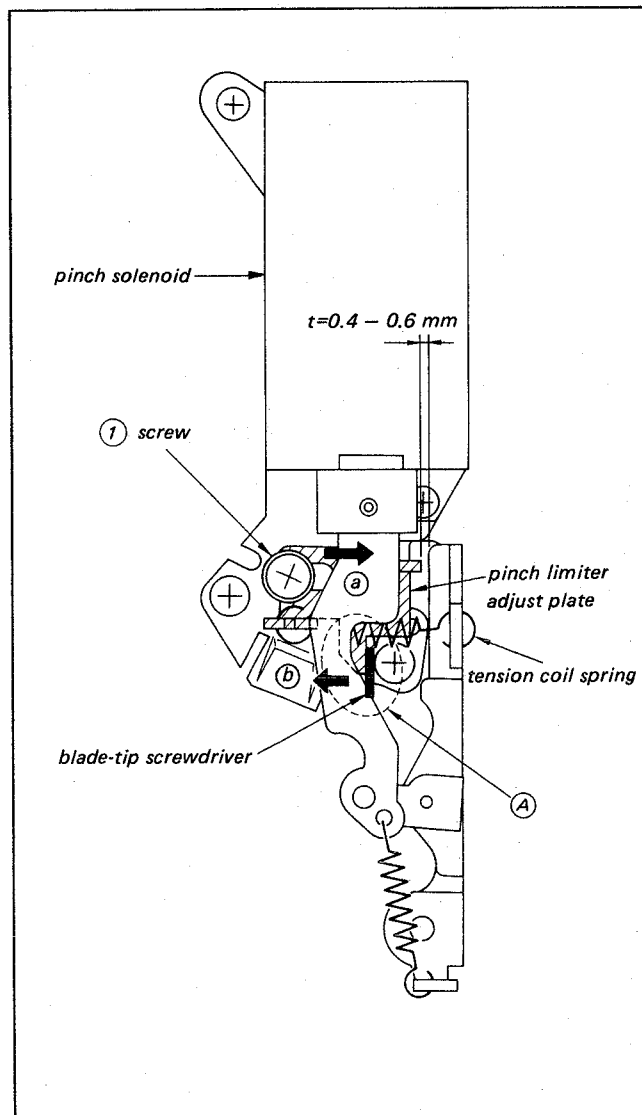

Fig. 3-28. Pinch Press Limiter Clearance Adjustment
- 2) Check that the clearance "t" of the pinch press limiter in Fig. 3-28 is 0.4 — 0.6 mm. If not, adjust as follows:
- 1) Loosen screw ① in Fig. 3-28 with the pinch solenoid held in.
- 2) Move the pinch limiter adjust plate (shaded in the diagram) fully in the direction of arrow ③. The clearance "t" at this time is 0.
- 3) Push the pinch limiter adjust plate in the direction of arrow ④ as shown at section A using a blade-tip screwdriver, until the clearance "t" is 0.4 — 0.6 mm. (Use $\phi 0.4$ and $\phi 0.6$ gauges for clearance adjustment)
- 4) Tighten screw ① and lock it.